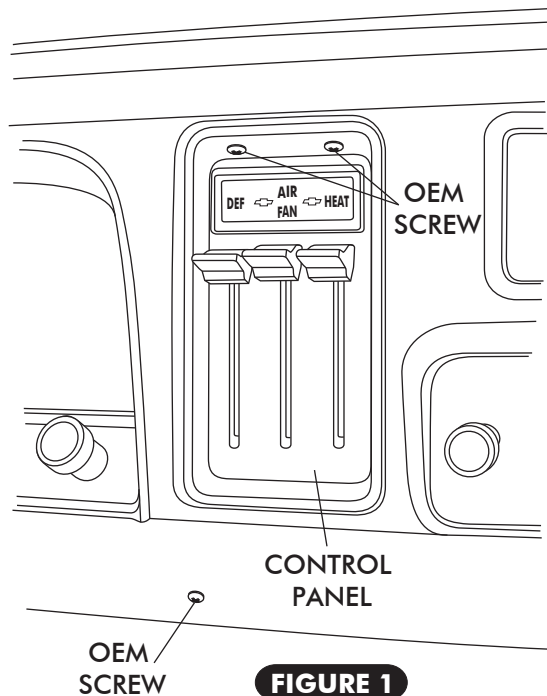

FIGURE 1
- REMOVE THE (3) OEM SCREWS FROM DASH. (SEE FIGURE 1 BELOW)